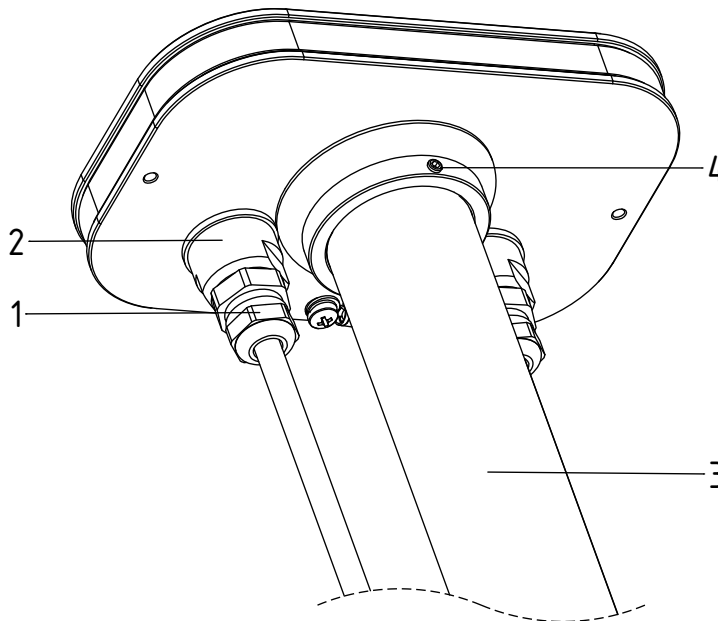

Fig. 6:
- Procell Intense PX1300(see Chapter 3.4.2 "Battery change \(Fig. 6\) / Battery disposal", page 16).
- The batteries may only be replaced if it can be ensured that a potentially explosive atmosphere does not exist at this instant of time (see Chapter 3.4.2 "Battery change \(Fig. 6\) / Battery disposal", page 16).
- Equipotential bonding (PA) shall be established along the entire cable run of the measuring circuit (see Chapter 4 "Operation", page 21).
- To connect the cable, first loosen the cap nut (1) at the gland, then unscrew the adapter with the cable gland (2), see Fig. 6.
3.4.2 Battery change (Fig. 6) / Battery disposal